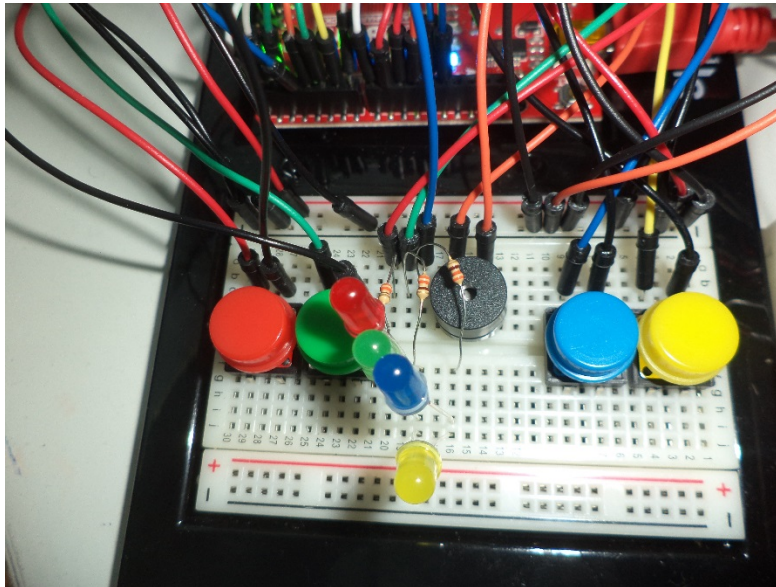

Figure 4: Simon Says Game with Charlieplexed Resistors
9. Now integrate the charlieplexing LEDs into the Simon Says circuit and modify the program so that the LEDs connected to pins 3, 5, and 10 work the way they did before (see Figure 4).